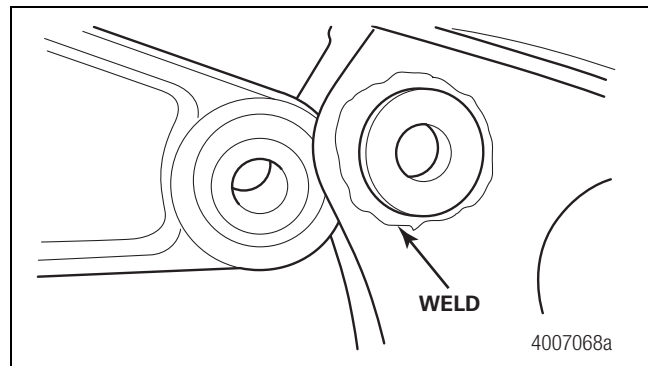

Figure 17
10. Tack weld the inside repair slug. Immediately weld it completely. Then weld the outside repair slug completely. Figure 17.